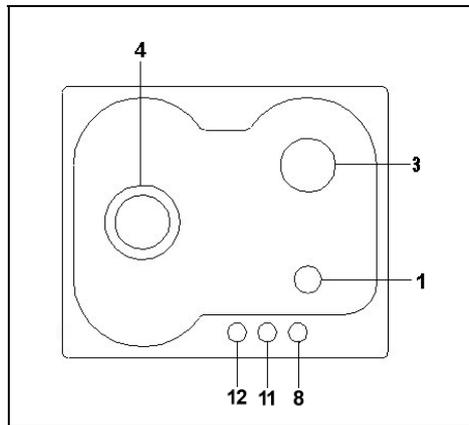

Fig.11A
- GAS HOB TYPE **P650**, see Fig. 11A - Electrical Diagram E
DESCRIPTIVE CAPTION FOR HOB (Figs. 11A-11B)